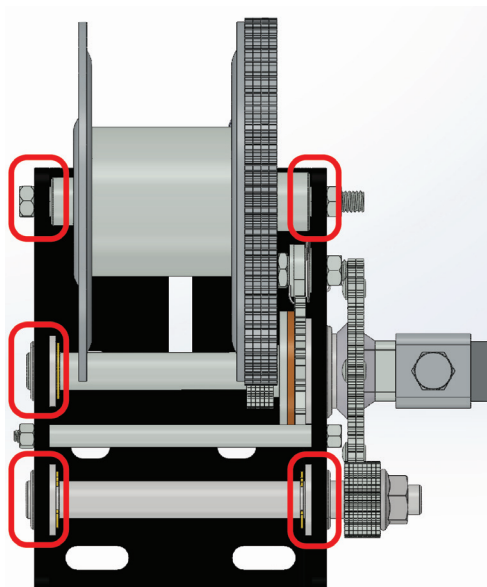

Figure 8-3: Mineral Oil Application Points
4. Apply a light, even coat of mineral oil (3-in-1 oil or equivalent) to the winch drum shaft, outer drive gear shaft, and input shaft to ensure smooth rotation and prevent corrosion (see Figure 8-3).